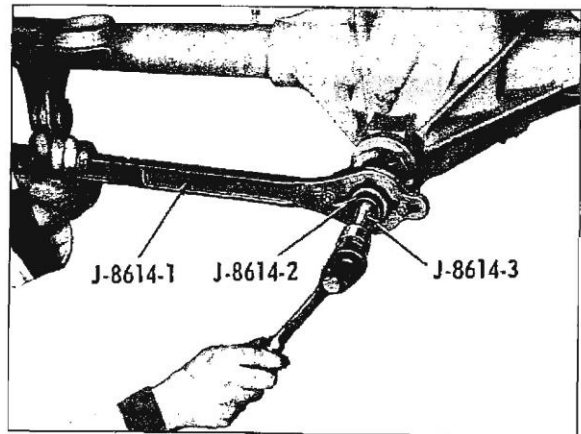

Fig. 4-8 Removing Companion Flange
5. Remove companion flange, using puller J-8614-2 and 3 (Fig. 4-8).
7. Remove companion flange using puller J-8614-2 & 3 (Fig. 4-8).